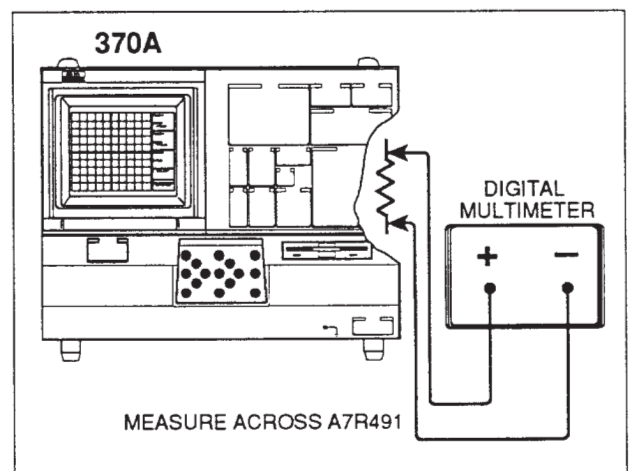

Figure 4-5. Adjusting for Current Amplifier Bias.
- f. Connect the Digital Multimeter across R491 on the A7 Step Generator Board as shown in Figure 4-5.